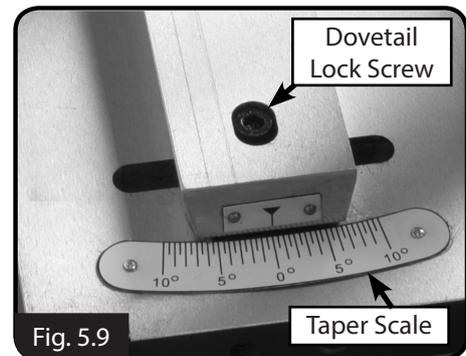
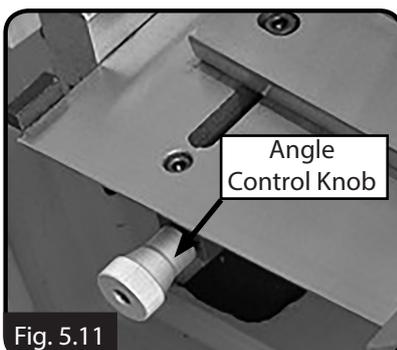

Fig. 5.9
Fig. 5.11
4. Using a hex wrench, loosen both dovetail lock cap screws (Fig. 5.9, 5.10)
5. Turn the taper angle control knob (Fig. 5.11) until you reach the taper angle that you need as indicated by the taper scale (Fig. 5.9).